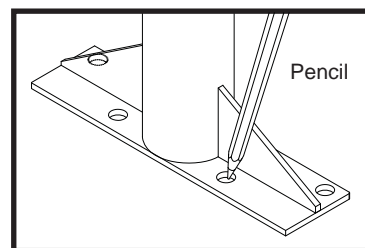

Fig. 12
2. While holding the OV in place, use a pencil and mark the center of all four anchoring holes in the base of the OV (Figure 12).